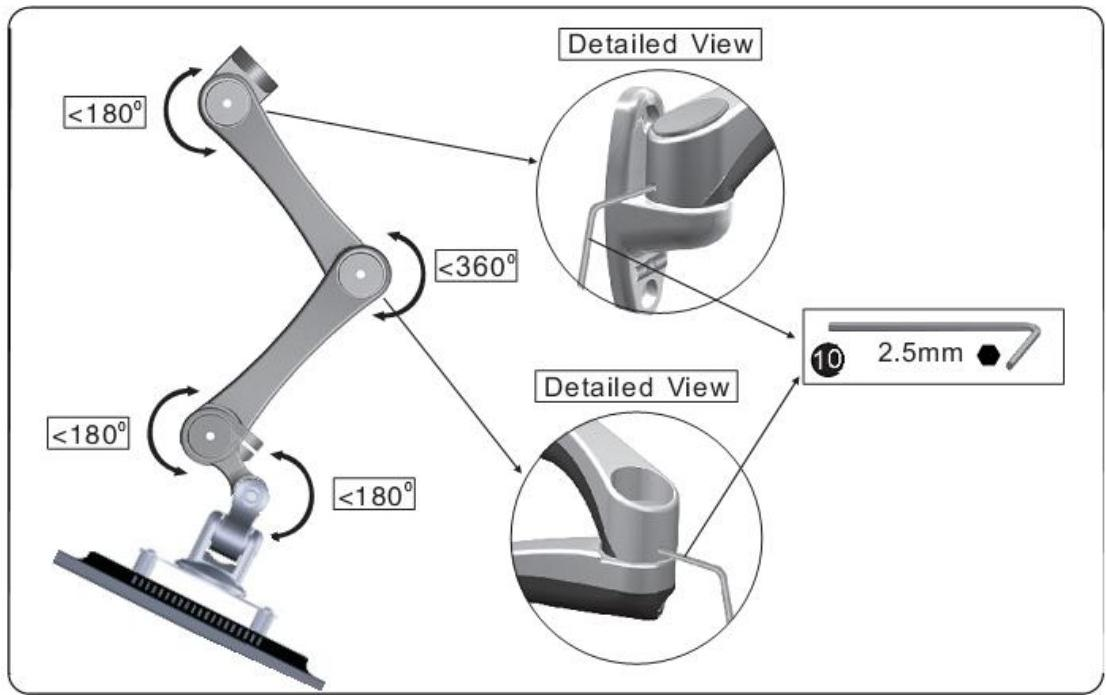

Figure 5-5
7. If this product tends to automatically move to the side, tension adjustment may be required on the LCD Arm to set your display monitor arm to the desired position. This can be done by using Hex Allen Wrench 2.5mm (**10**) (**See Figure 5-5**).